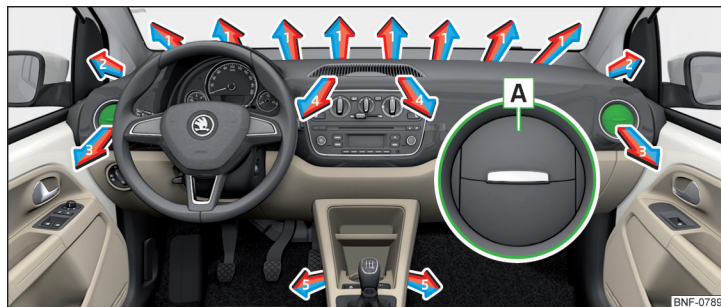

Fig. 83 Air outlet vents
The direction of airflow can be adjusted for the air vents 3 » Fig. 83 and the vents can also be opened and closed individually.
- To **open**, press on the outer edge of the slat in area **A** » Fig. 83.
Air outlet vents » Fig. 83